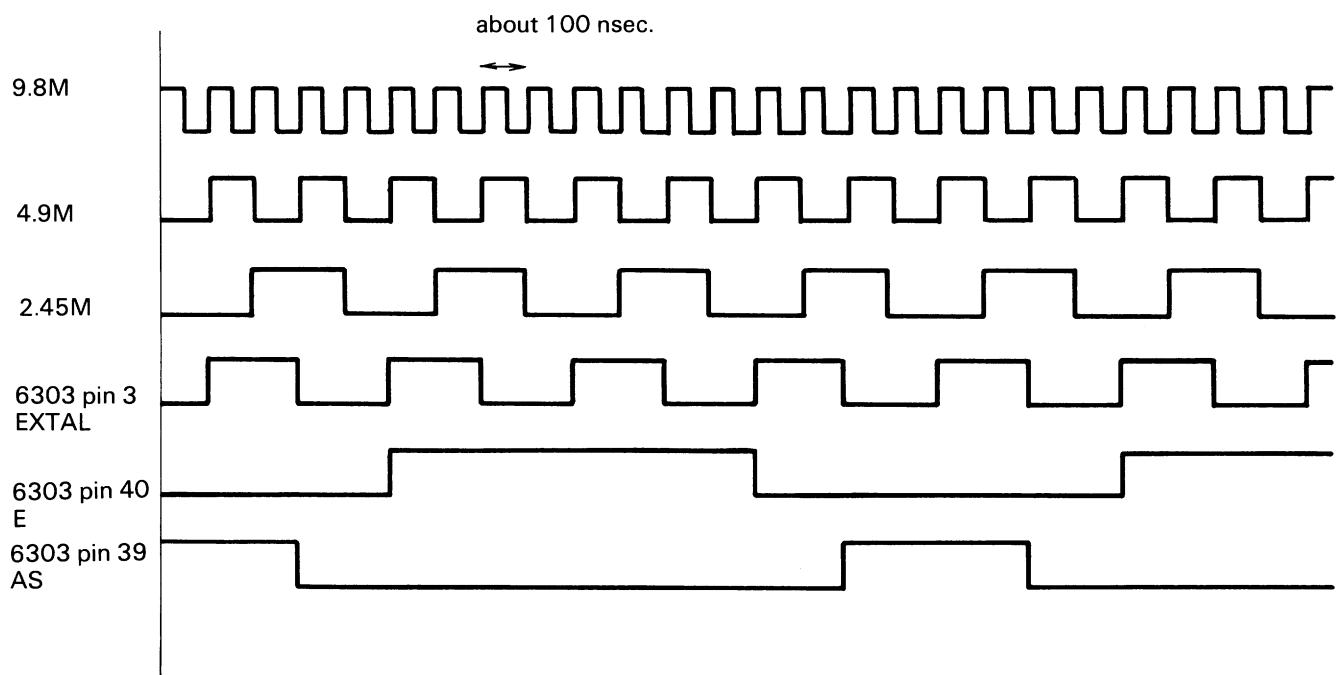

Fig. 2-59
- Figures 2-59 and 2-60 show the timing relationship among major clock signals.